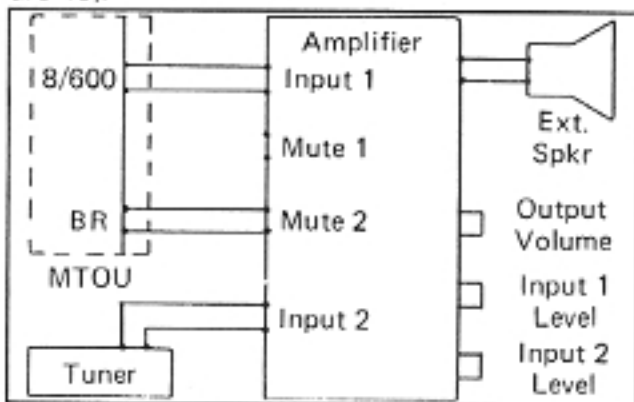

FIGURE 49
11.77 To provide external BGM control, obtain and install the optional BR(K1) relay on the MTOU PCB, see Paragraph 06.11. Connect the BR terminals on the MTOU to the control terminals (mute, mike switch, etc.) on the amplifier (see Figure 49).